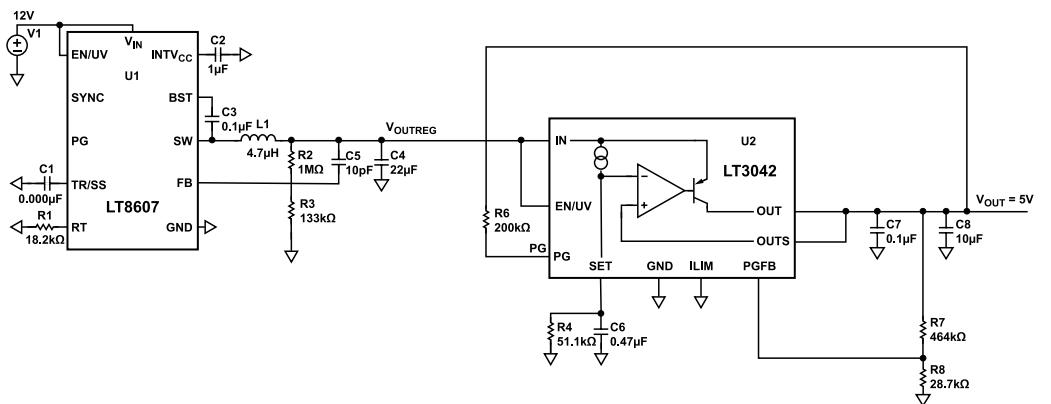

Figure 79. Recommended Power Management Circuit
**Figure 79** shows a recommended power management circuit for the ADL8121. The LT8607 step-down regulator is used to step down a 12 V rail to 6.62 V, which is then applied to the LT3042 low dropout (LDO) linear regulator to generate a low noise 5 V output. While the circuit shown in **Figure 79** has an input voltage ( $V_{IN}$ ) of 12 V, the input range to the LT8607 can be as high as 42 V.